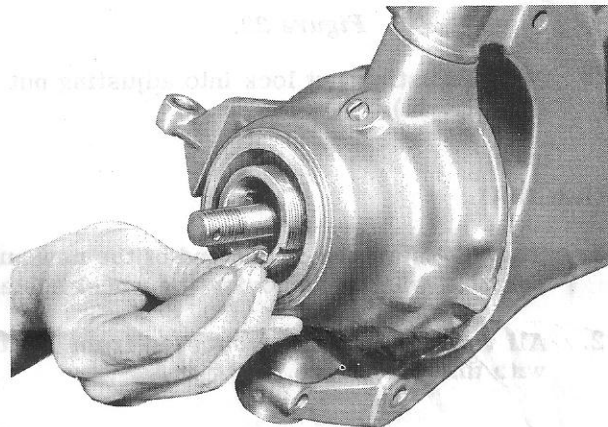

Figure 20.
26. Install new bearing lock as shown in figure 20.